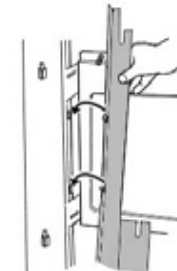

Fig. 4
4. Clip in left and right side trim pieces. Adjust tabs by bending to fit if necessary (see Fig. 4).